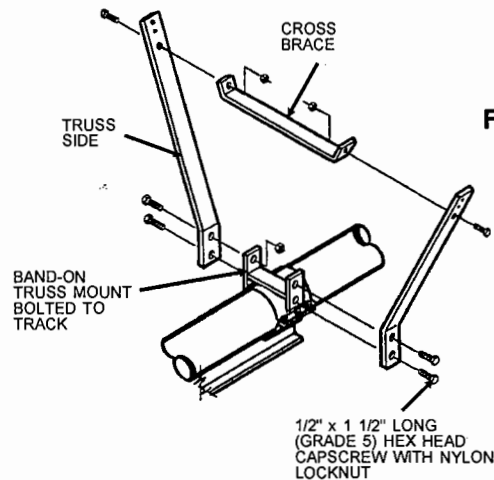

FIG. 19
Step 10. Loosely bolt truss sides to upper truss mount. See Fig. 19. Bolt the crossbrace between the truss sides with two 3/8" x 1 1/4" long (grade 5) hex head cap screws and nylon locknuts. Tighten the hardware holding truss sides to truss mounts.